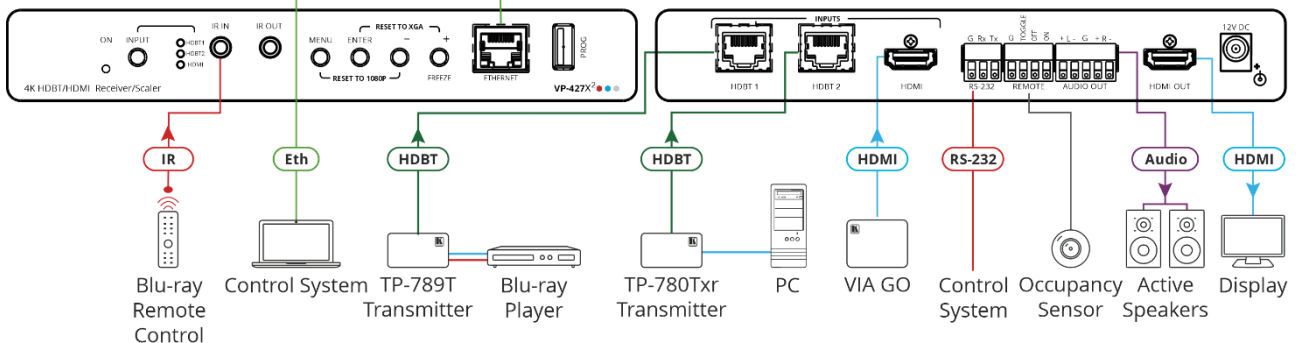

Figure 3: Connecting to the VP-427X2
**To connect VP-427X2 as illustrated in the example in Figure 3:**
10. Connect the power adapter to **VP-427X2** and plug the adaptor to the mains electricity (not shown in Figure 3).